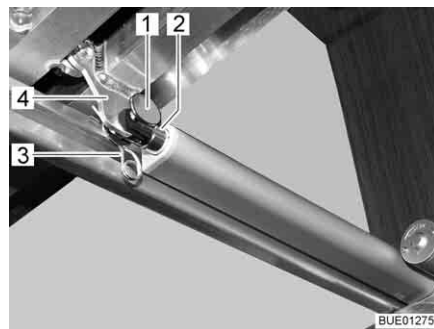

Fig. 112 Drive
- Remove the connection (e.g. pin and cotter pin (Fig. 112,1 and 3)) between the push rod (Fig. 112,2) and the slatted frame (Fig. 112,4).